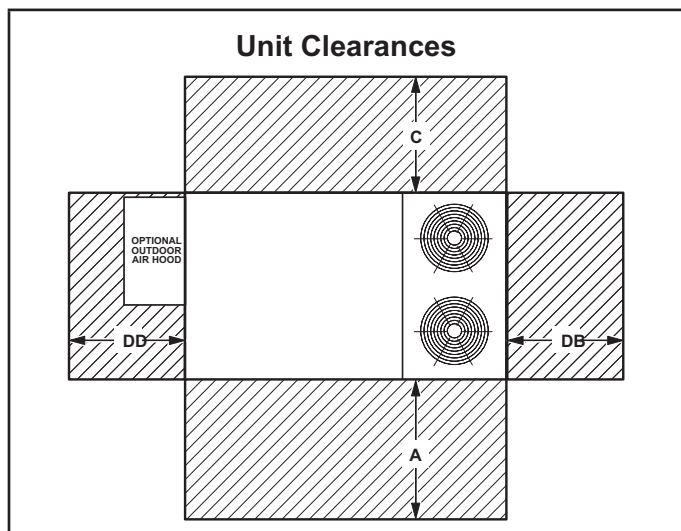

FIGURE 1
See FIGURE 1 for unit clearances
The LHX unit is ETL/CSA certified as a heat pump with cooling and with or without auxiliary electric heat for non-residential use only at the clearances to combustible materials as listed on the unit nameplate and in FIGURE 1.
- 2 - Specified installation clearances must be maintained when installing units. Refer to FIGURE 1.